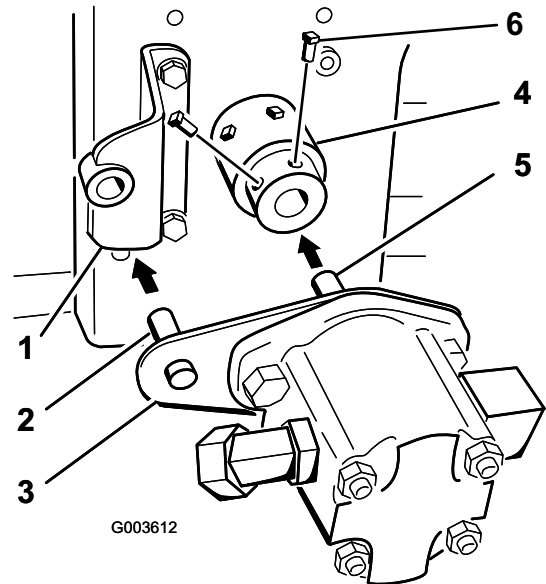

Figure 20
9. Install the pump plate stud into the pump bracket while installing the hydraulic pump shaft into the hub assembly. The hydraulic pump shaft will touch the end of the engine PTO shaft Figure 20.
assembly to secure the hydraulic pump shaft (Figure 20).